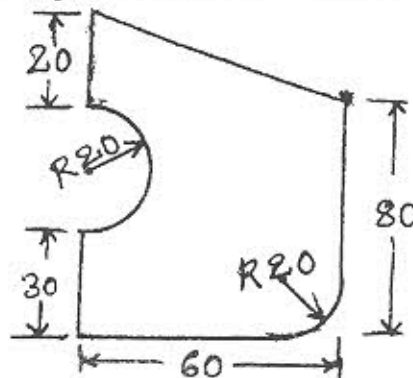

Fig.Q7(b)
b. The top view of a component is shown in Fig.Q7(b). Write a complete part program to mill the profile of the part. Part thickness is 15 mm and cutter diameter is 10 mm. Clearly show the target point of the tool and axes on the sketch of the part. Target point is (30, 30, 30) from left top corner of the part. Assume suitable data. (15 Marks)